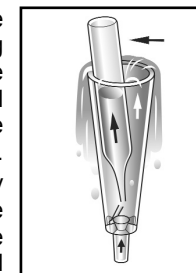

Figure 1
2. Insert a Vacu-vial ampoule so that the tapered tip is at the bottom of the sampling tube. Snap the tip by gently pressing the upper end of the ampoule toward the wall of the sampling tube (fig. 1). The ampoule will fill, leaving a bubble to facilitate mixing.